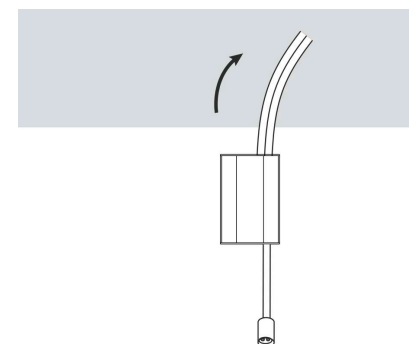

Fig.2
5. Insert hardwire box through the mounting hole (see Fig.2 on the right).